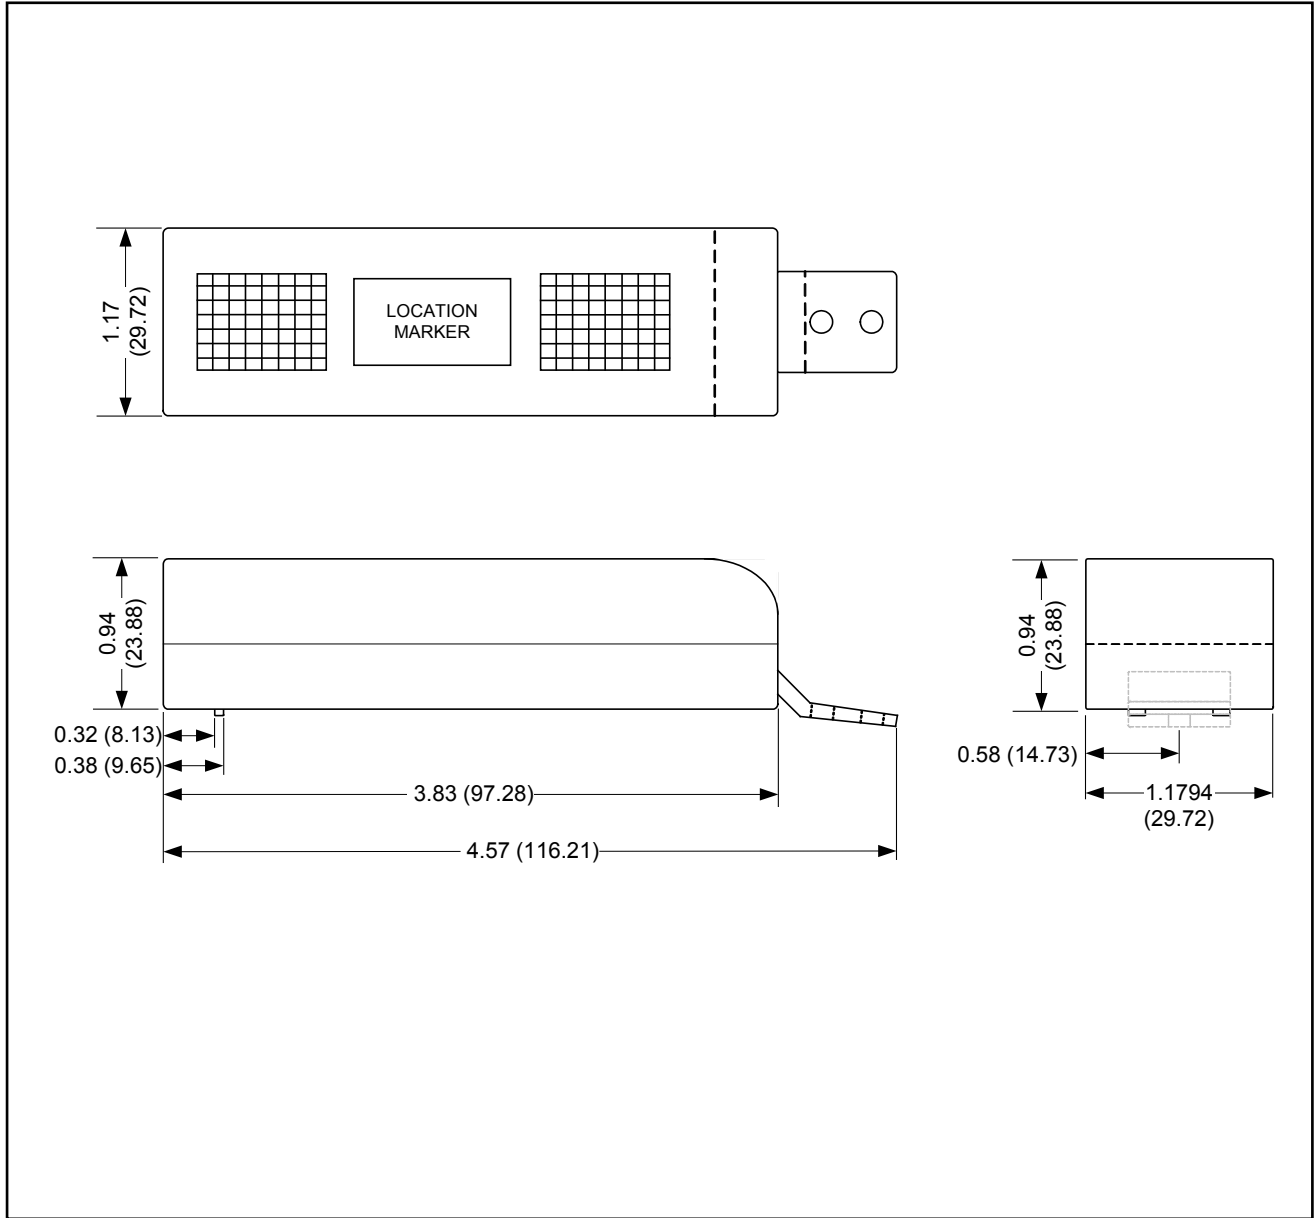
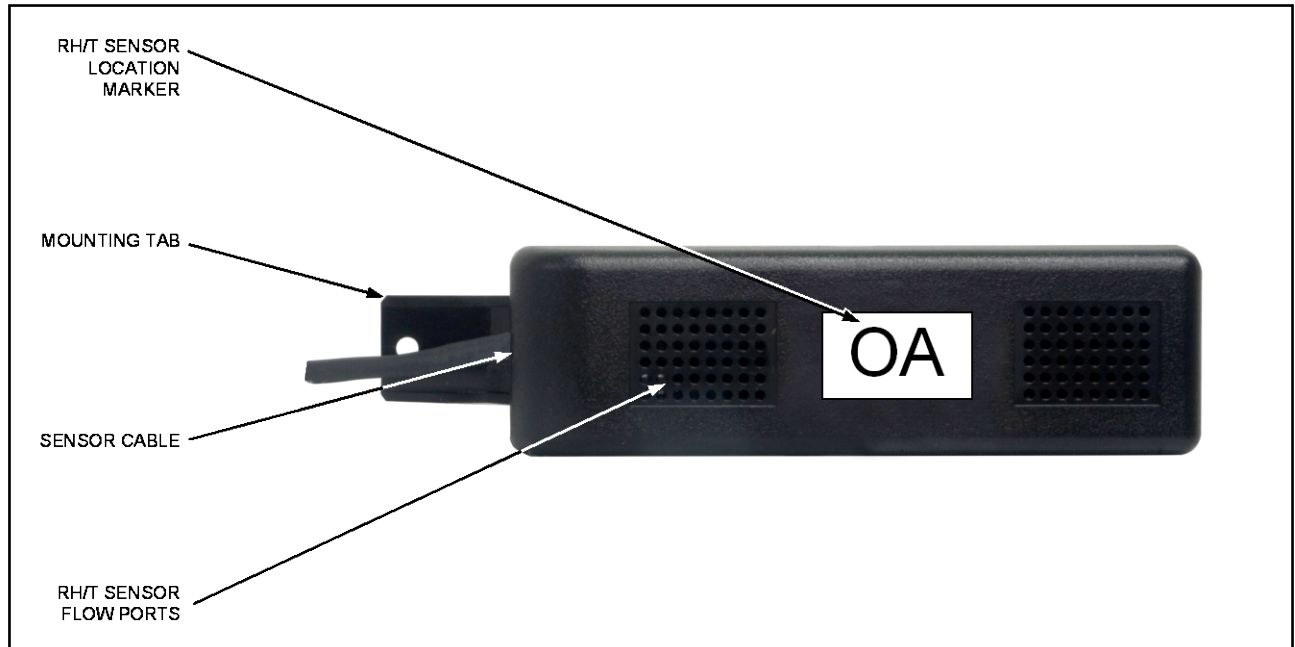

Figure 3. RH/Temperature Sensor Mechanical Detail
Figure 6. RH/T Sensor Detail View
Figure 6 is a detail view of the RH/T Sensor assembly. Refer also to Figure 3 for dimensional details.
The DRI-1000-A is supplied with 3 or 4 RH/T sensors (Figure 3) depending on the model selected as shown in Table 1. The location of the individual RH/T sensors is critical for proper operation of the system.
3.  Refer to Figure 3, and using suitable mounting hardware, mount the RH/T sensor marked **OA** in the **OA** chamber through the integral sensor mounting tab. It is recommended that the end of the cable be marked “**OA**” with a suitable permanent marker.
4.  Refer to Figure 3, and using suitable mounting hardware, mount the RH/T sensor marked **RA** in the **RA** chamber through the integral sensor mounting tab. It is recommended that the end of the cable be marked “**RA**” with a suitable permanent marker.
5.  Refer to Figure 3, and using suitable mounting hardware, mount the RH/T sensor marked **EX** in the **EX** chamber through the integral sensor mounting tab. It is recommended that the end of the cable be marked “**EX**” with a suitable permanent marker.
6.  (Optional step for models equipped with SA RH/T Sensors.) Refer to Figure 3, and using suitable mounting hardware, mount the RH/T sensor marked **SA** in the **SA** chamber through the integral sensor mounting tab. It is recommended that the end of the cable be marked “**SA**” with a suitable permanent marker.